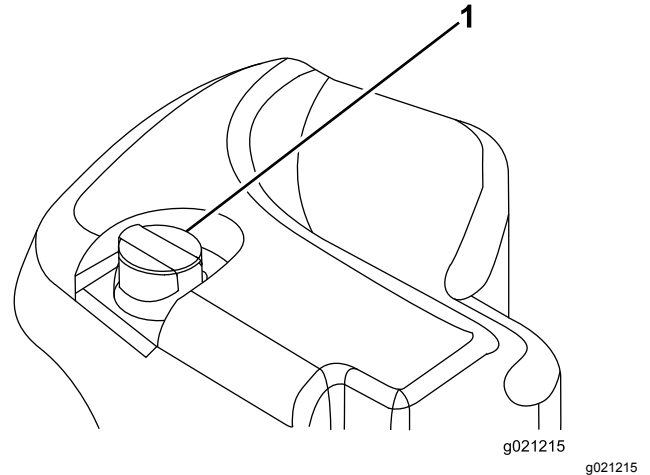

Figure 64
2. Clean the area around the filler neck and the cap of the hydraulic tank (Figure 64).